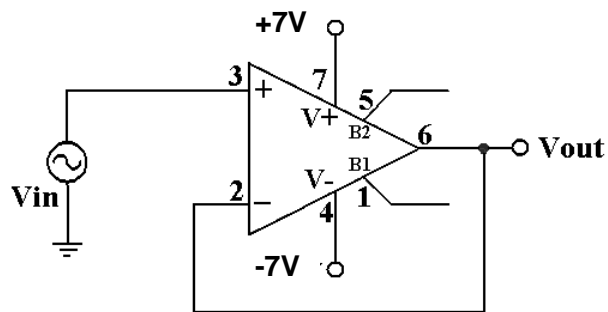

Fig. 3. Voltage Follower Configuration
6. What's the voltage DC gain of the circuit shown in Fig. 3? Verify your answer using Pspice.